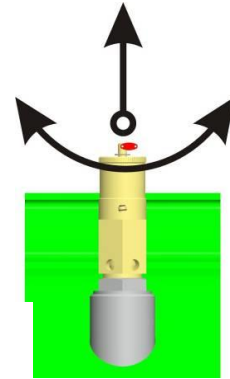

Fig. 13
19.6. Check safety valve operation (Fig. 13)